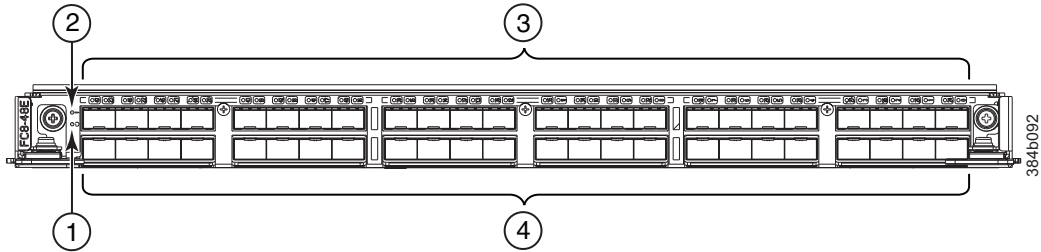

Figure 61. FC8-48E port blade
- Figure 61 on page 163 shows an FC8-48E port blade